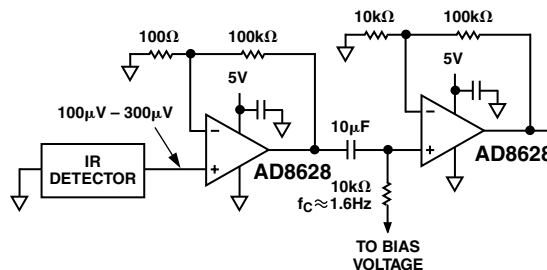

Figure 13. Preamplifier for Thermopile
Infrared (IR) sensors, particularly thermopiles, are increasingly being used in temperature measurement for applications as wide-ranging as automotive climate controls, human ear thermometers, home-insulation analysis, and automotive repair diagnostics. The relatively small output signal of the sensor demands high gain with very low offset voltage and drift to avoid dc errors. If interstage ac coupling is used (Figure 13), low offset and drift prevents the input amplifier's output from drifting close to saturation. The low input bias currents generate minimal errors from the sensor's output impedance. As with pressure sensors, the very low amplifier drift with time and temperature eliminates additional errors once the temperature measurement has been calibrated. The low $1/f$ noise improves SNR for dc measurements taken over periods often exceeding 1/5 second. Figure 15 shows a circuit that can amplify ac signals from 100 μV to 300 μV microvolts up to the 1 V to 3 V level, gain of 10,000 for accurate A/D conversion.